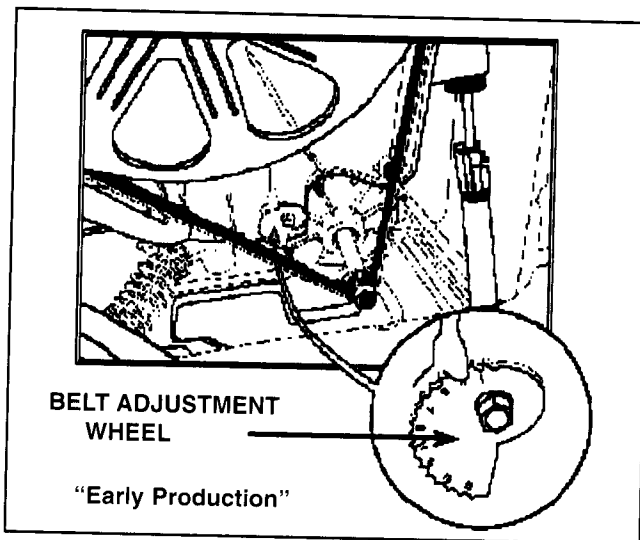

Figure 3
1. **(Earlier washers with the adjustment wheel)** Loosen the belt adjustment wheel and position the adjustment wheel to align with indicator number 1. **(See Figure 3).** This will allow proper tensioning of the belt.